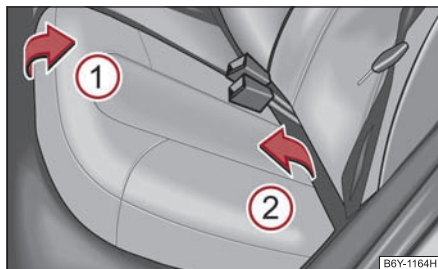

Fig. 68 Folding the seat cushion forwards
- Pull up the seat cushion in the direction of arrow ① ⇒ fig. 68 and fold forwards in direction of arrow ②.